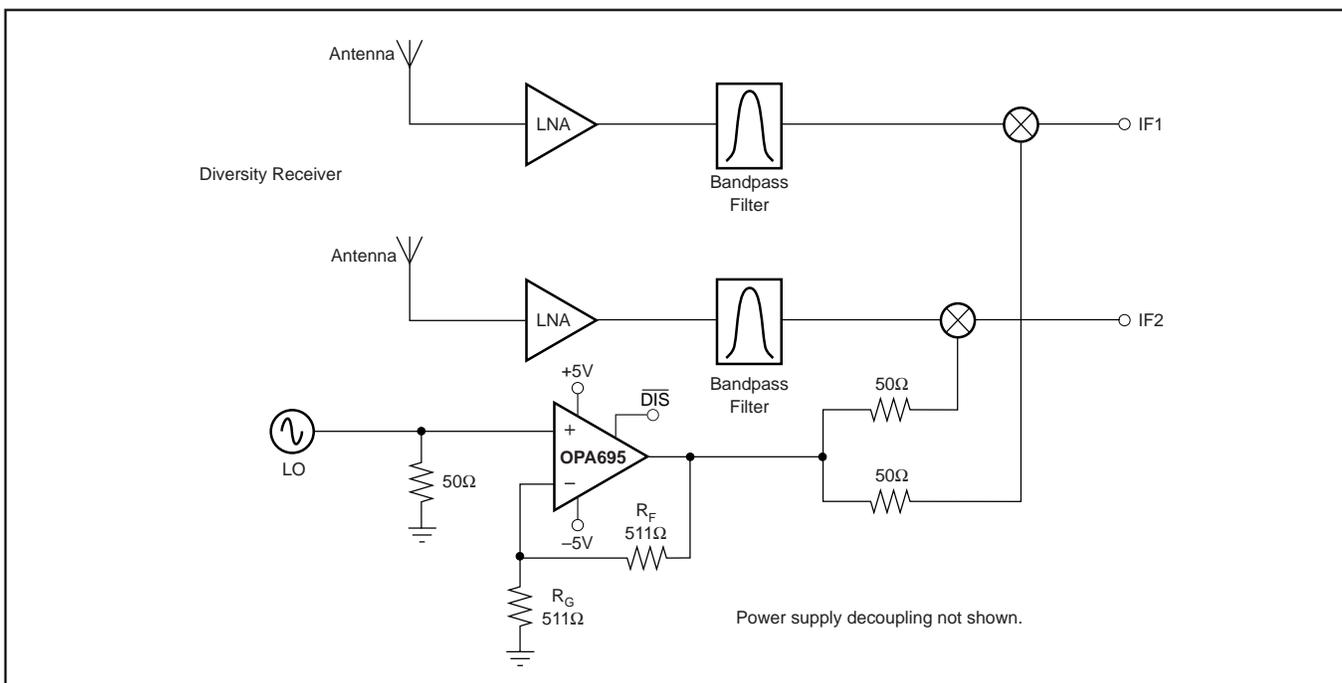

FIGURE 8. Dual Output LO Buffer.
The OPA695 may also be used to buffer the Local Oscillator (LO) from the mixer(s). Operating at a voltage gain of  $+2$ , the OPA695 will provide almost perfect load isolation for the LO with a net gain of 0dB to the mixer. Applications through 1.4GHz LOs may be considered, but best operation would be for LOs  $< 1.0$ GHz at a gain of  $+2$ . Gain could also be easily provided by the OPA695 to drive higher power levels into the mixer. One unique option in using the OPA695 as an LO buffer is shown in Figure 8. Since the OPA695 can drive multiple output loads, two identical LO signals may be delivered to the mixers in a diversity receiver simply by tapping the output off through two series 50Ω output resistors. This circuit is set up for a voltage gain of  $+2V/V$  to the output pin for a gain of  $+1V/V$  (0dB) to the mixers, but could easily be adjusted to deliver higher gains as well.